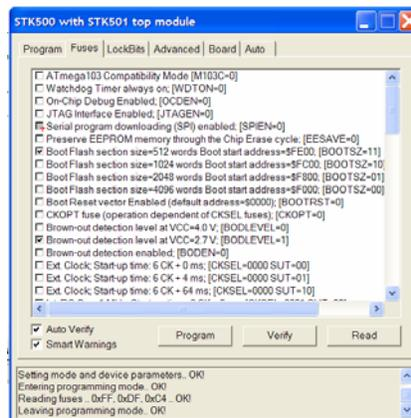

Figure 5. Fuse dialog box. This window allows you to select the fuses on the ATmega 128.
13. You should then see the dialog box shown in Figure 5, which shows the fuse settings. In the pane at the bottom of the window, you should see that AVR Studio was successful in communicating with the ATmega 128. See the Intro to the ATmega 128 laboratory for information on setting the fuses (<http://www.engr.sjsu.edu/bjfurman/courses/ME106/ME106pdf/intro-atmel.pdf>).